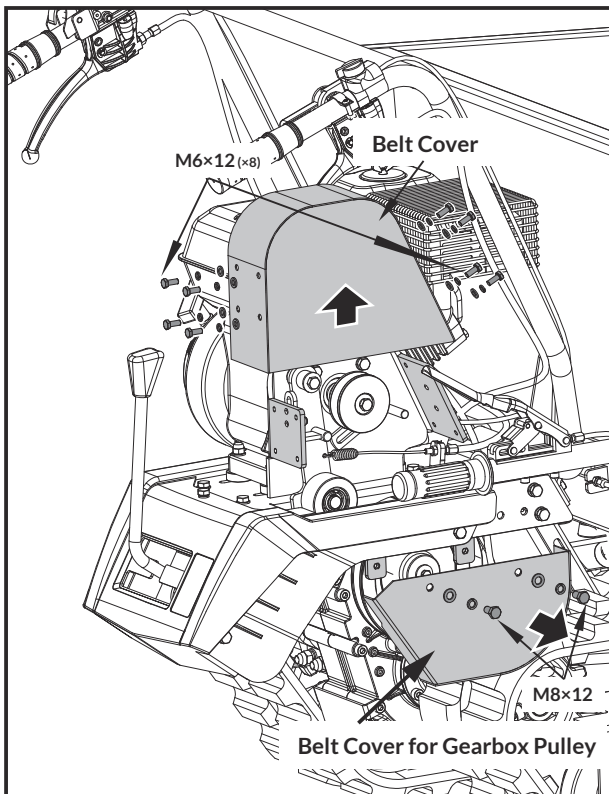

Figure 15
1. Remove the belt cover as shown in figure 15.